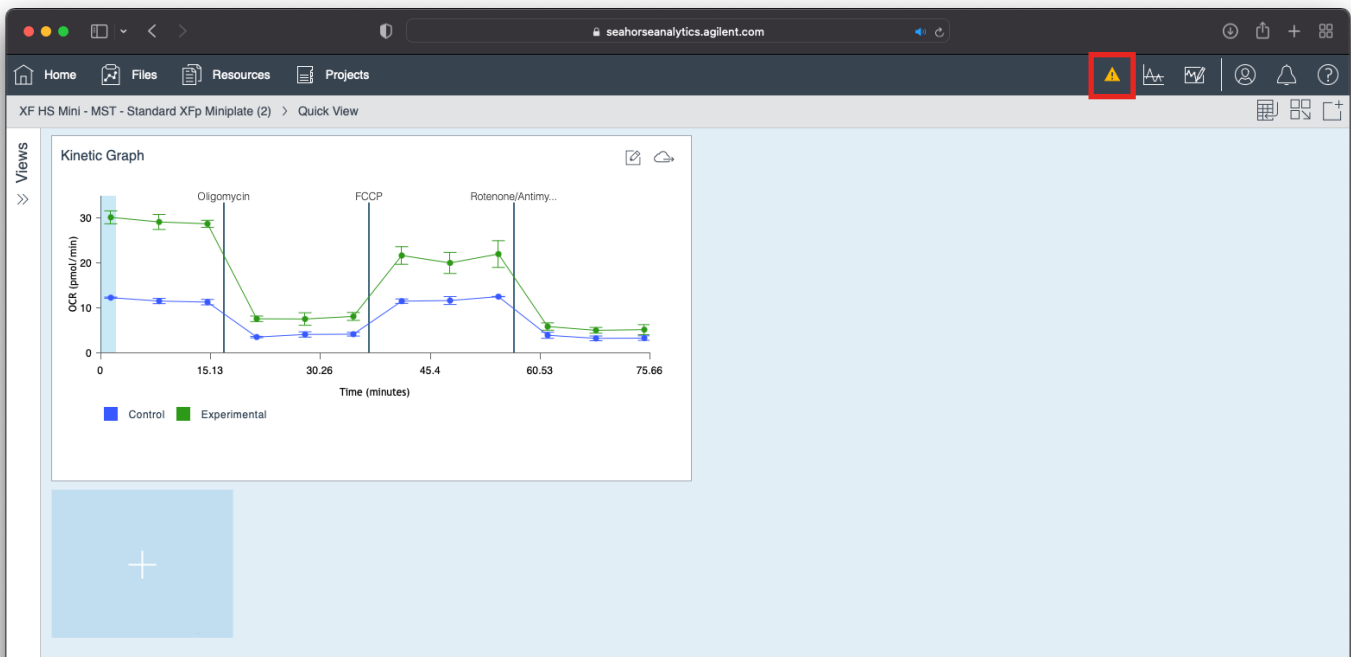

Figure 13. Data Quality warnings and errors icon.
4. Once the analysis view is generated, you will be able to access the Data Quality view. Look on the right side of the top-level dark blue ribbon for a triangle with an exclamation point. If this triangle has a yellow fill, then there are warnings or errors detected in your result file. If this triangle does NOT have a yellow fill, then no warnings or errors are detected in your file at that time (Figure 13).